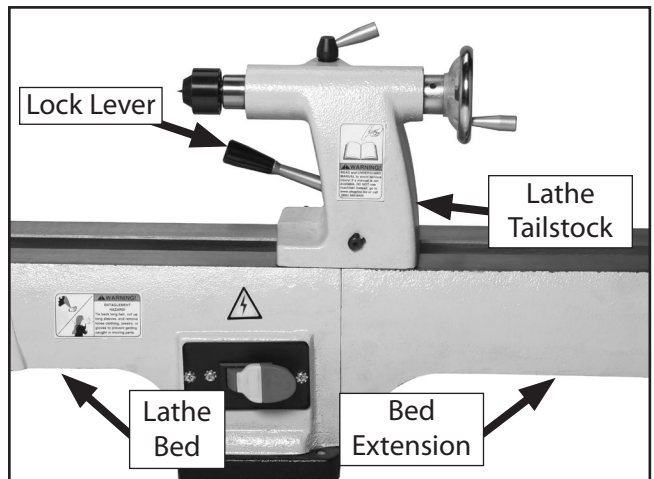

Figure 3. Tailstock centered over extension table and lathe bed.
3. Center tailstock over bed extension and lathe (see **Figure 3**), and then tighten tailstock lock lever. This will force bed extension into alignment with lathe bed.